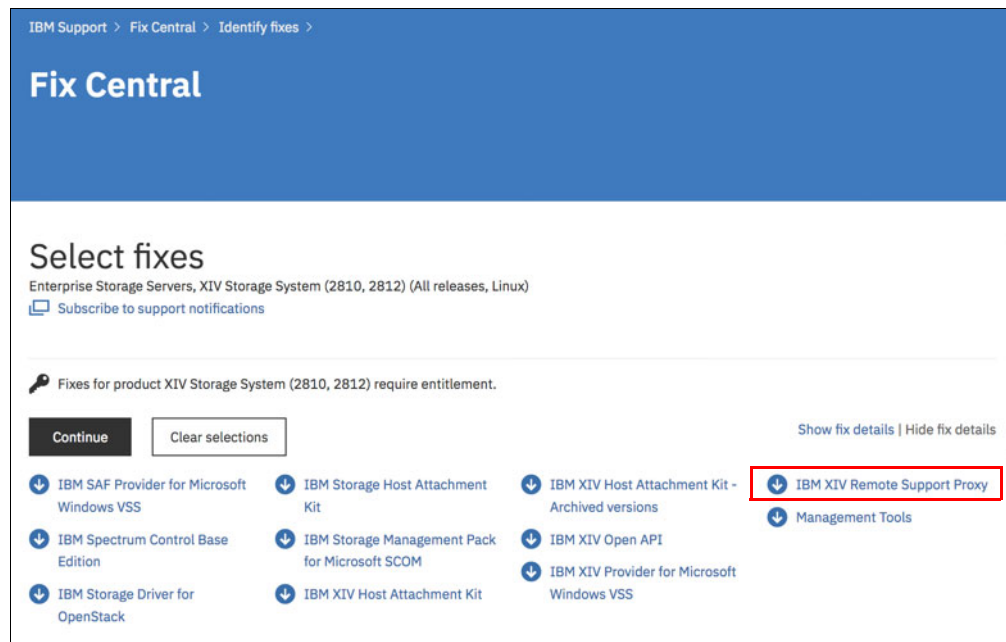

Figure 10-5 Select the IBM XIV Remote Support Proxy
2. Select the **IBM XIV Remote Support Proxy**, as shown in Figure 10-5.